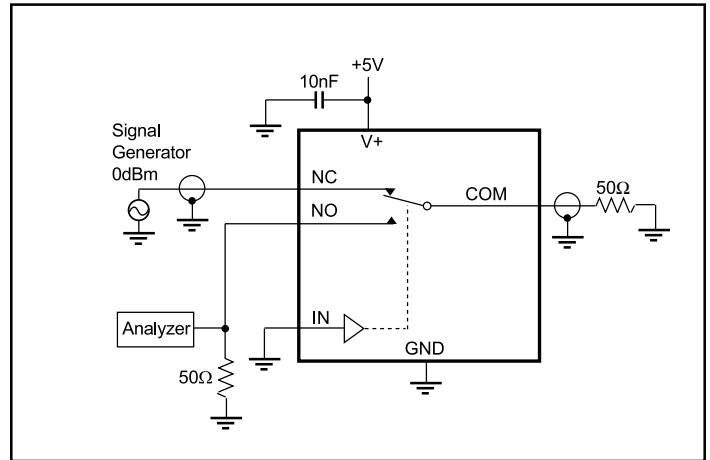

Figure 4. Crosstalk (124 only)
- Between any two switches. See Figure 4.